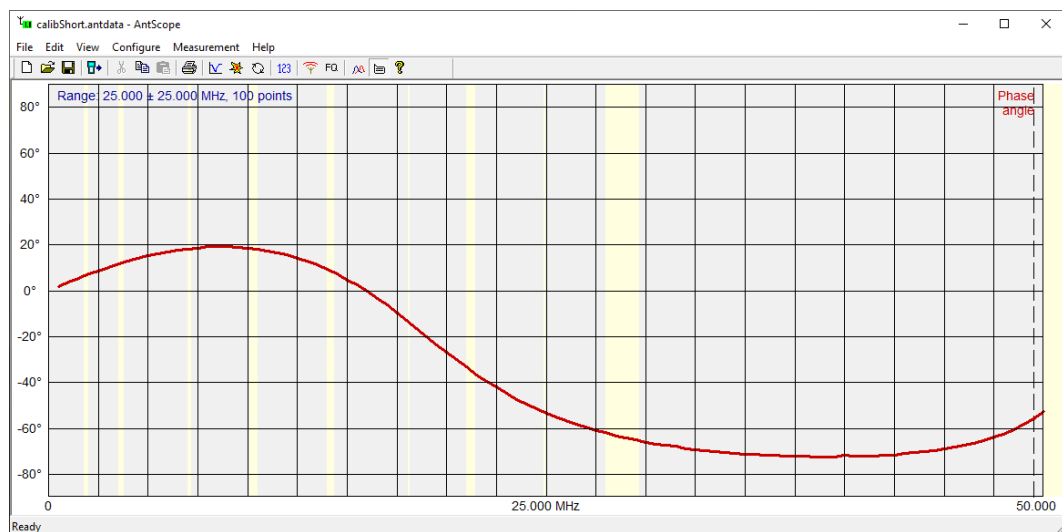

Figure 9-39: AntScope measurement - Load
2. Click the 'Start/Stop Measurement' button  to start a measurement as shown in Figure 9-39.